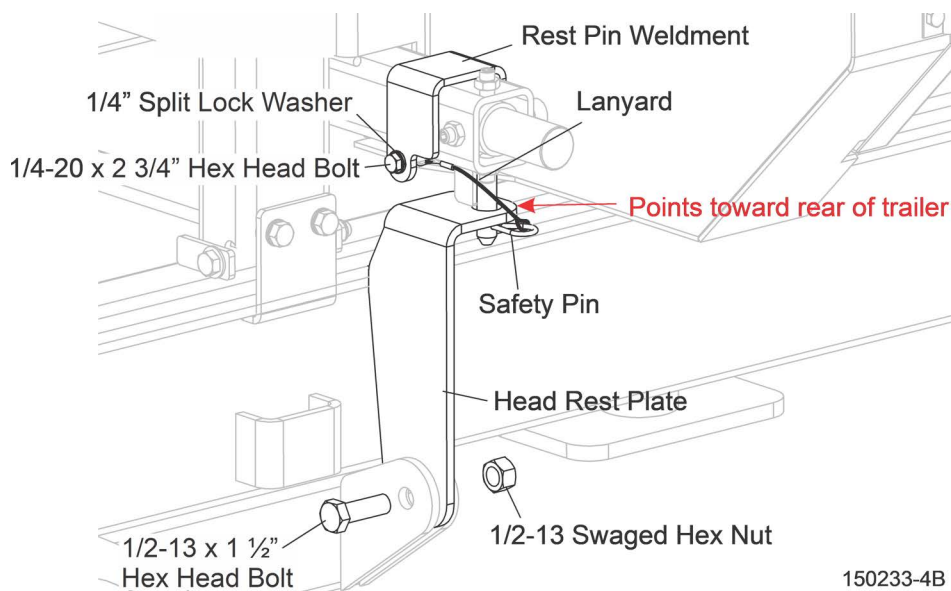

FIG. 2-19
3. Install the head rest plate to the sawmill bed as shown in FIG. 2-19.